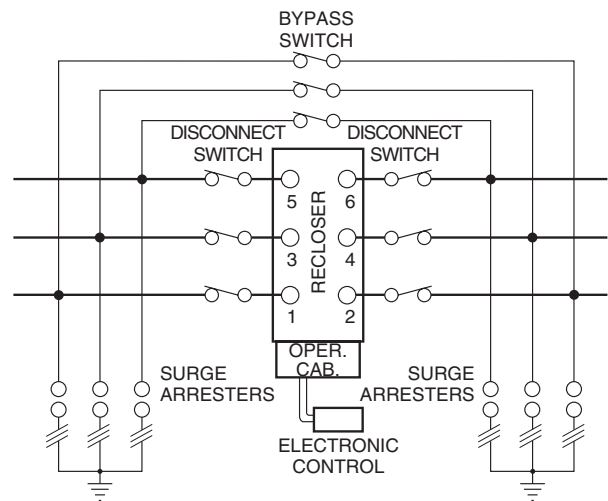

Figure 3. Typical recloser connections, with switches to facilitate maintenance and with complete surge protection.
6. Make the high-voltage line connections. See Figure 3.